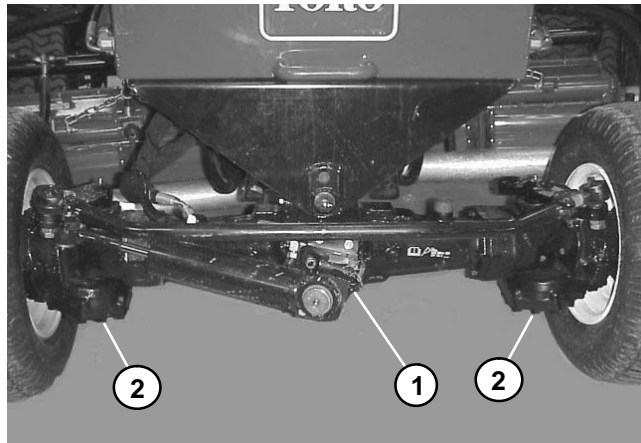

Figure 4
2. Clean area around the check plugs, drain plugs and fill/vent plug (Fig. 4, 5 and 6).
3. Remove check plugs and fill/vent plug to allow easier rear axle draining (Fig. 4).